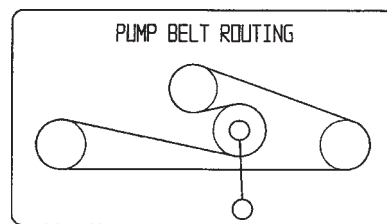

Figure 72
1. Pull the spring loaded idler down and remove the traction belt from the engine and hydro pump pulleys (Fig. 72). Remove the belt between the pulleys.
2. Install the new belt around the engine and hydro pump pulleys (Fig. 72).
3. Pull the spring loaded idler down and align it below the traction belt. Release the pressure on the spring loaded idler (Fig. 72).